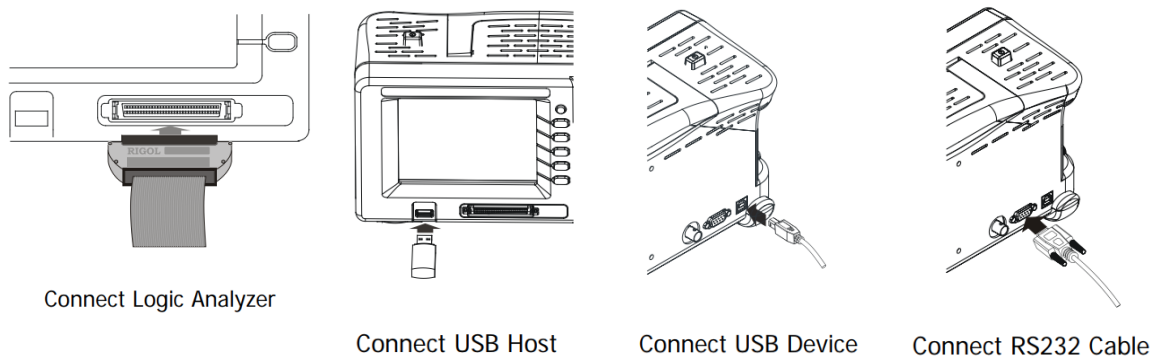

fig. 6
- Connect the red test lead to the position polarity of the circuit tested and the black into the negative as in the fig.6.
### 3. Connect the Logic Analyzer, USB, and RS232 (fig. 6)